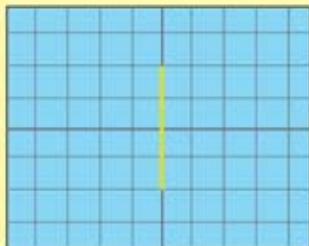

Figure 6.20
- Observe and record the trace displayed on the screen as shown in Figure 6.20.